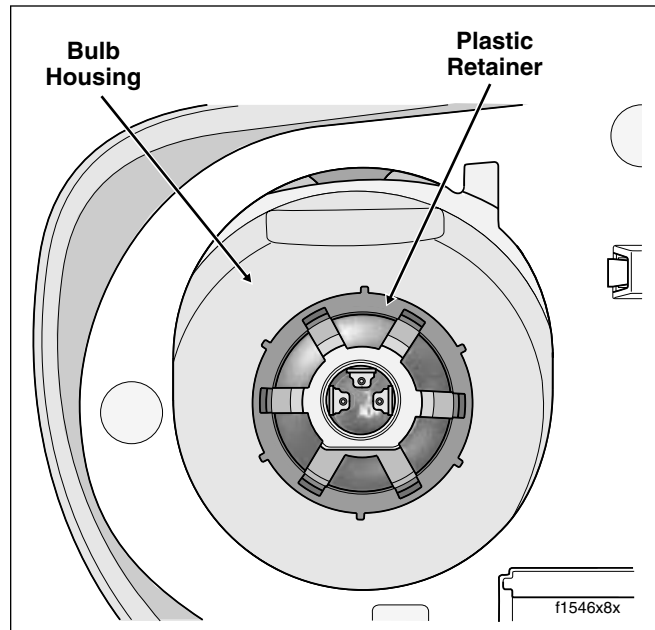

Figure 8-29. Remove Retainer to Release Bulb
5. Rotate plastic retainer in a counter-clockwise direction to remove from bulb housing flange. See Figure 8-29.
2. Place plastic retainer over bulb housing flange and rotate in a clockwise direction until tight. See Figure 8-29.